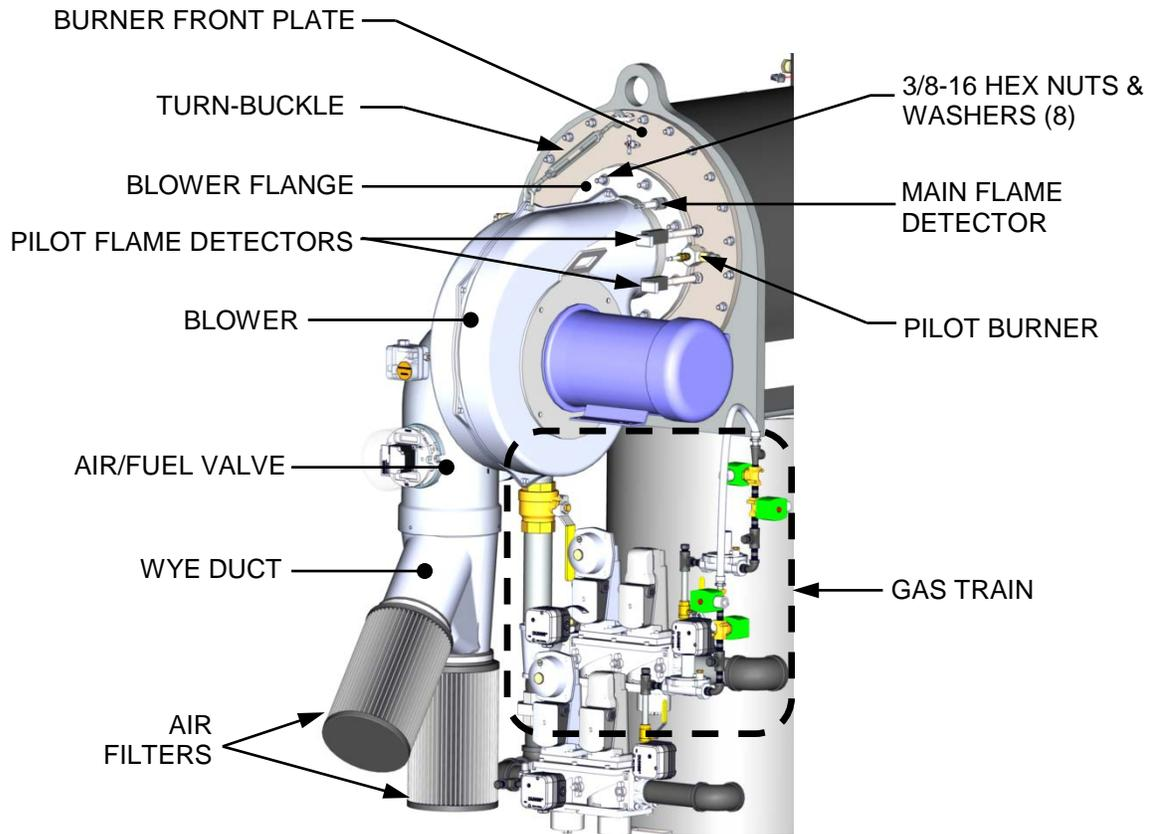

Figure 7-4a: Burner Assembly Mounting Details – Right-Front View
6. Remove the Pilot sensors and observation ports from the Burner Plate (Figure 7-4a).
11. Remove the blower support turn-buckle (Figure 7-4A).
18. Loosen and remove the eight (8) 3/8" hex nuts and washers from the Blower Flange where it is attached to the Burner Plate (see Figures 7-4a & 7-4b).